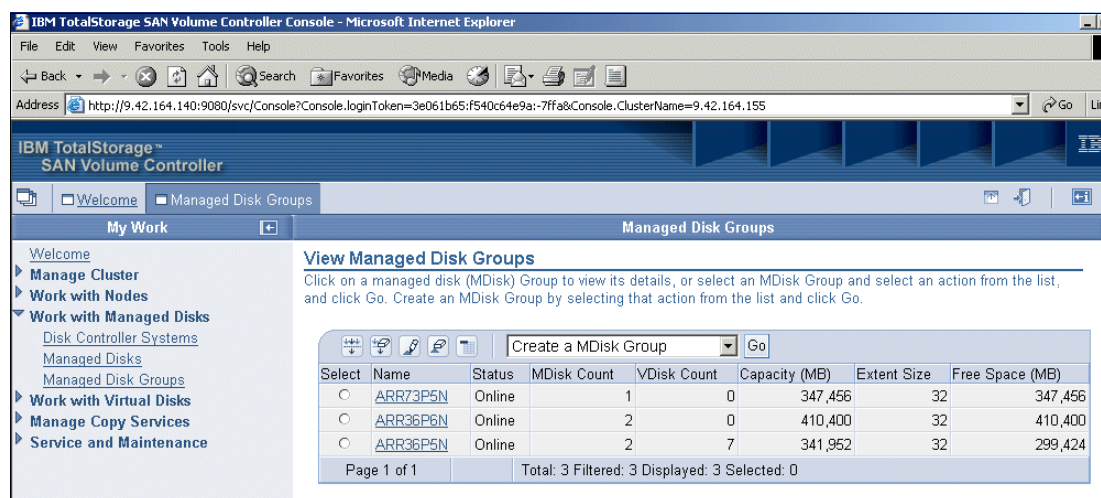

Figure 9-38 Viewing MDGs
This section details the tasks that can be performed on a MDG level. Each of the following tasks are performed from the View Managed Disk Groups panel (Figure 9-38). To access this panel, from the SVC Welcome page, click the **Work with Managed Disks** option and then the **Managed Disk Groups** link.
1. On the Viewing Managed Disk Groups panel (Figure 9-38), click the name of any MDG in the list.